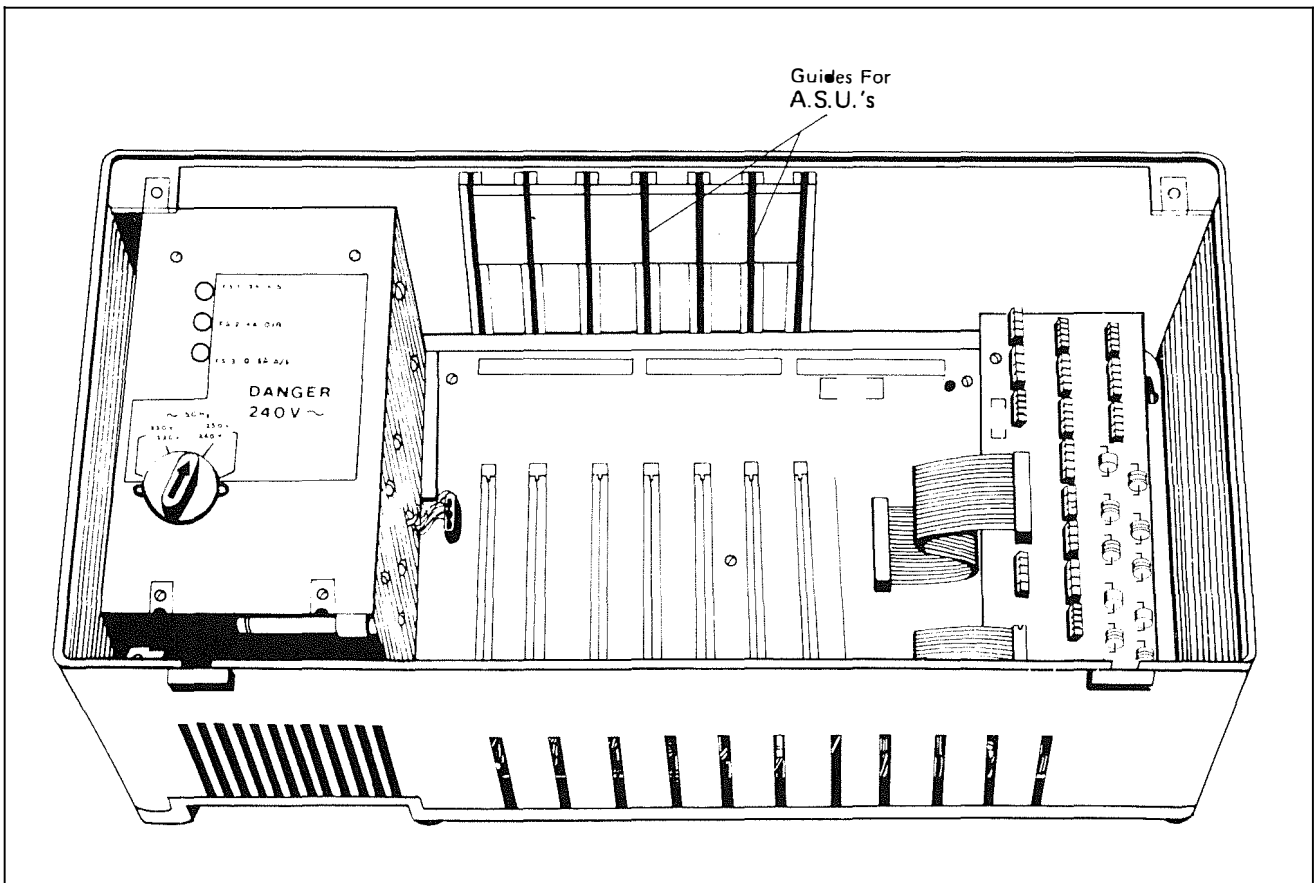
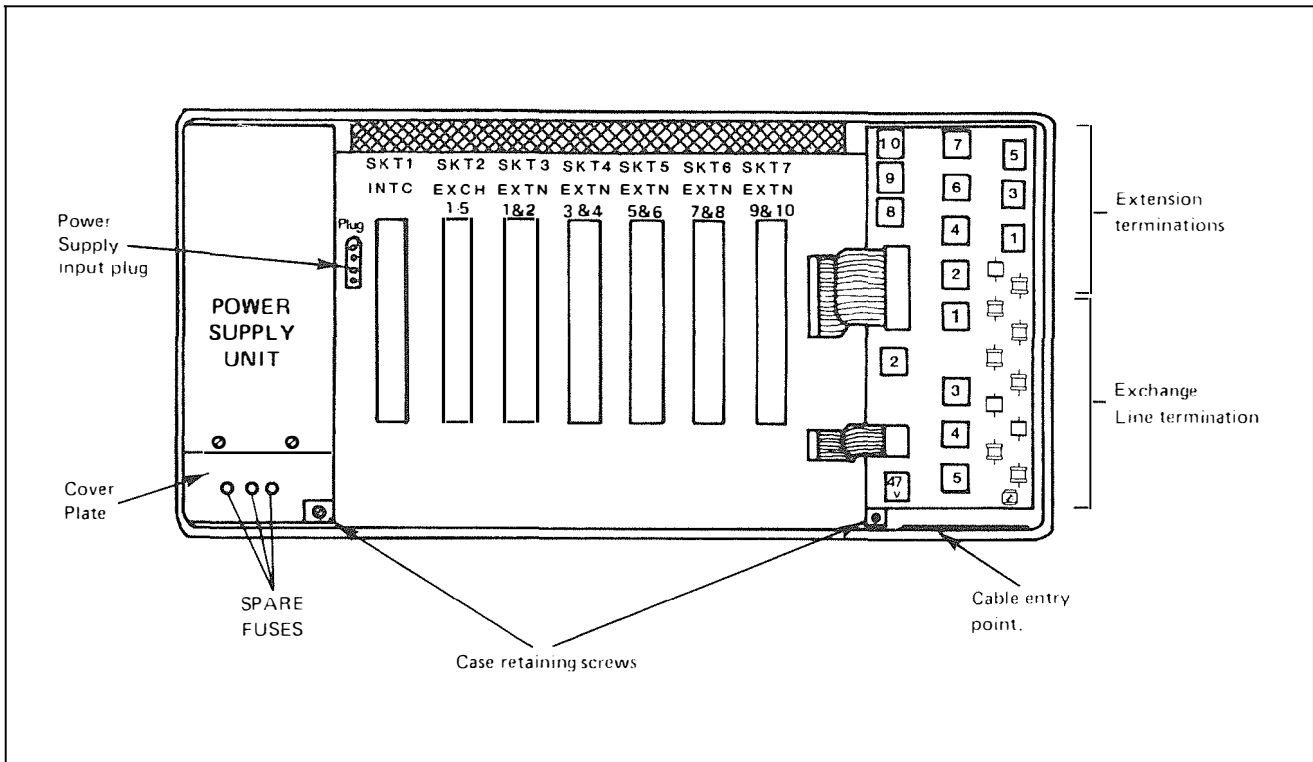

Fig 2.4 CCU WITH CASE IN POSITION
Fig 2.5 CCU LAYOUT
- Fit the plate carrying the spare fuses in their carriers to the screws at the lower edge of the PSU. This plate covers the gap between the PSU and the case to prevent accidental contact with the mains connections. (See Fig 2.5.)
The Exchange Line ASU, the Intercom ASU and the Extension ASUs can now be fitted. Each is carefully slid into its respective guide as in Fig 2.4. Ensure that the card is positioned correctly before fully pushing it into its socket. The positions for the ASUs are shown in Fig 2.5.
The cables bringing exchange lines and extension connections to the CCU should be fed under the rear mounting plate to enter the CCU through the slot in the bottom right-hand corner, see Fig 2.5. All extensions must use 'twisted pair' type cable: Cable Equipment 2503F (6 wire). All cables are terminated on insulation displacement connections using an Inserter Wire 2A. The cable should be run directly to the Line Jack from the Senator Back Plane. The two spare wires should be insulated and must not be used to connect other circuits, unless otherwise specified.